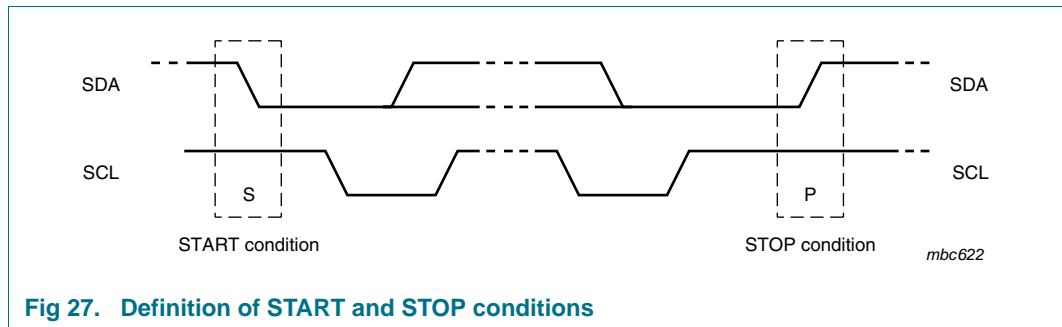

Fig 27. Definition of START and STOP conditions
Both data and clock lines remain HIGH when the bus is not busy. A HIGH-to-LOW change of the data line, while the clock is HIGH, is defined as the START condition (S). A LOW-to-HIGH change of the data line, while the clock is HIGH is defined as the STOP condition (P). The START and STOP conditions are shown in Figure 27.